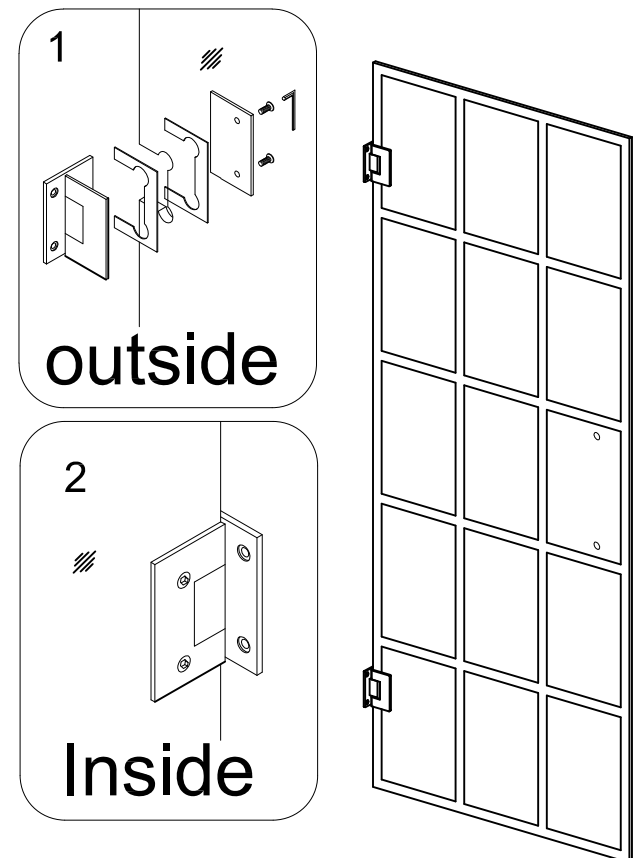

Figure 1
1. Attach the Hinges (05) to Door Panel (01). The smooth flat surface of Hinge (05) should be installed on outside of glass door. See Figure 1 for details.